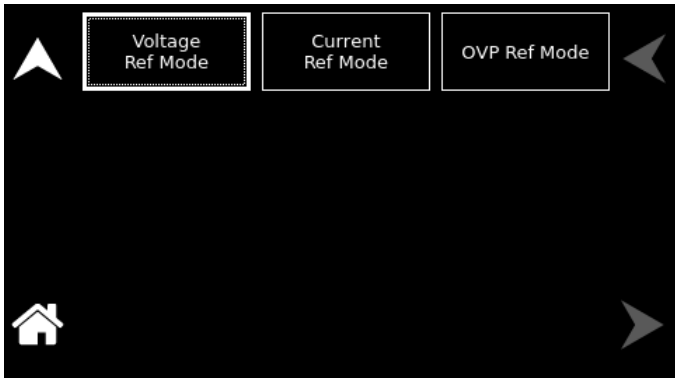
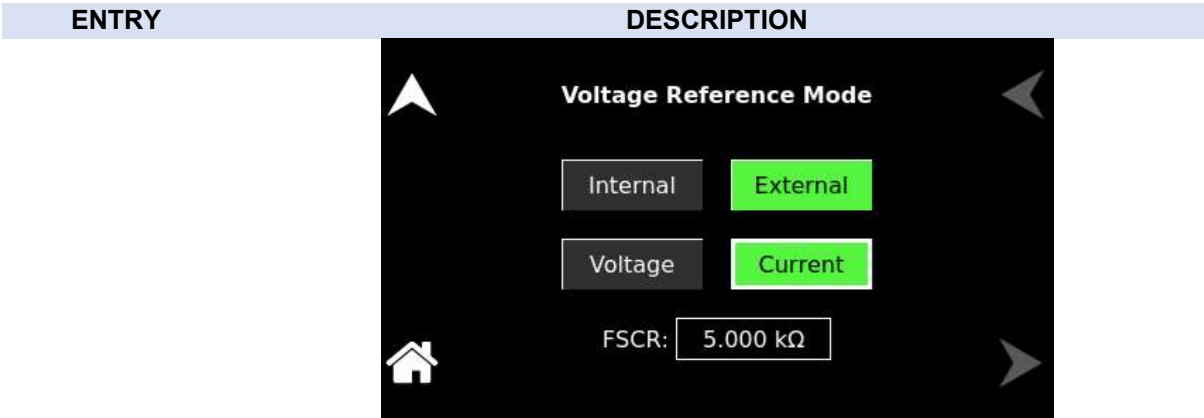

Figure 8-181. Configure Analog Mode Settings
Figure 8-185. Voltage Reference Mode – Resistive
Sets parameter values and controls operation of the Analog Programming interface. Refer to Figure 8-181.
|       | <ul style="list-style-type: none"><li>Voltage Ref Mode : Configures the Voltage Reference Mode, refer to Figure 8-181. When the Voltage Reference Mode is set to External, the Voltage setting field on the Dashboard screen and the 'Voltage' option in the Output Program screen will be disabled, and these Voltage fields will display as 'EXT'. Refer to Figure 8-182 to Figure 8-185.</li></ul> |
When Voltage Reference Mode is selected as Current, FSCR (Full Scale Current Resistance) unit will be kΩ (k Ohms). Refer to Figure 8-185.
- Current Ref Mode:** Configures the Current Reference Mode, refer to Figure 8-181. When the Current Reference Mode is set to External, the Voltage setting field on the Dashboard screen and the ‘Voltage’ option in the Output Program screen will be disabled, and these Voltage fields will display as ‘EXT’. Refer to Figure 8-186 and Figure 8-187.